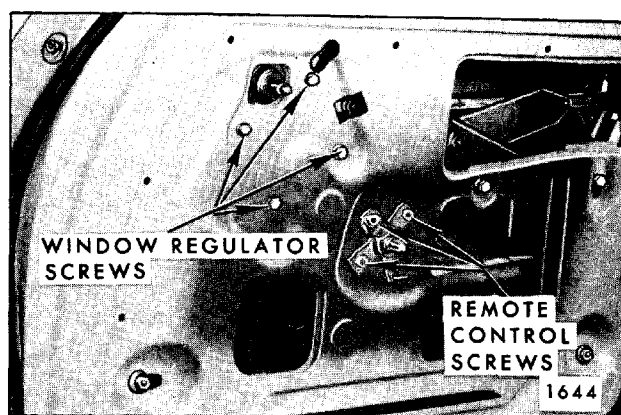

Fig. 7-95—Front Door Hardware - "Z" Styles
- e. On "Z" Body Styles, remove regulator through large access hole (see Fig. 7-95).